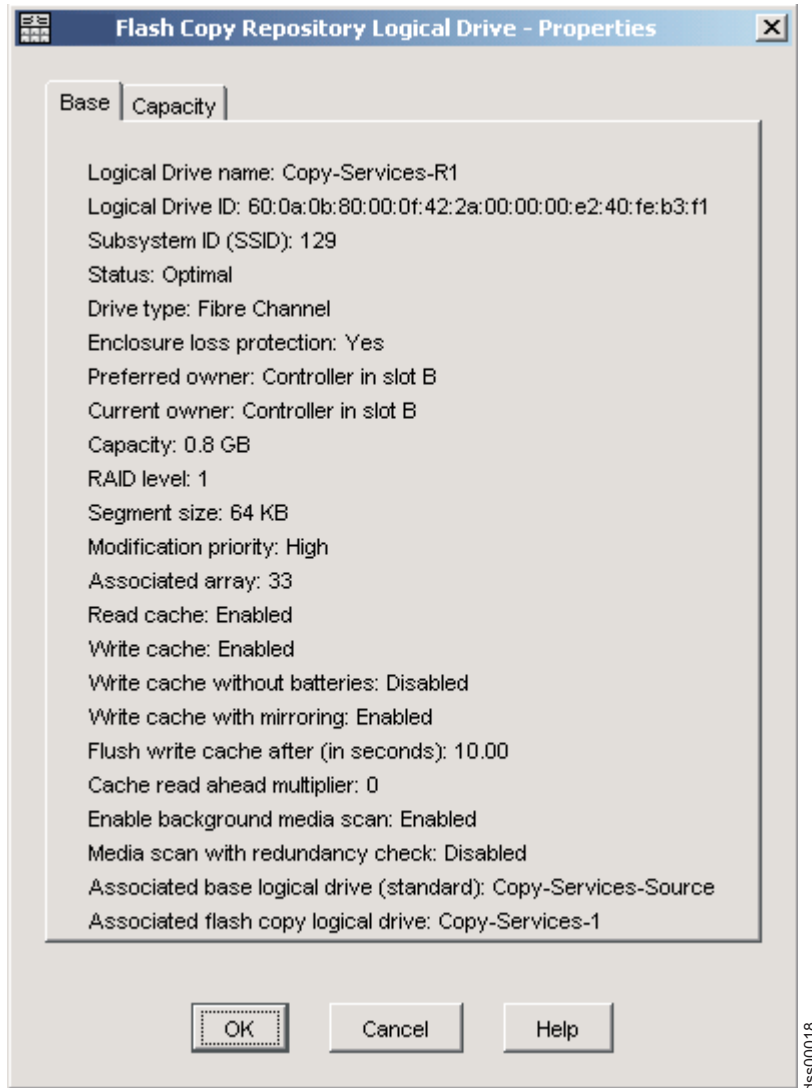

Figure 14. FlashCopy repository logical drive properties
2. Click **Logical Drive** → **Properties**. The FlashCopy Repository Logical Drive - Properties window opens. See Figure 14.